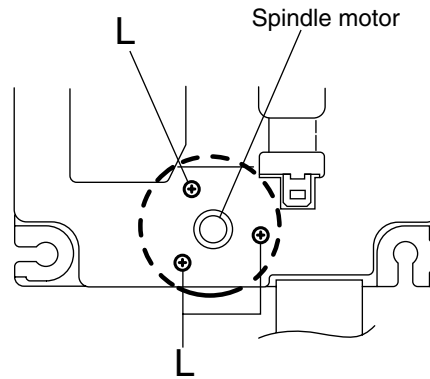

Fig.19
■ Removing the spindle motor assembly (See Fig.19 to 21)